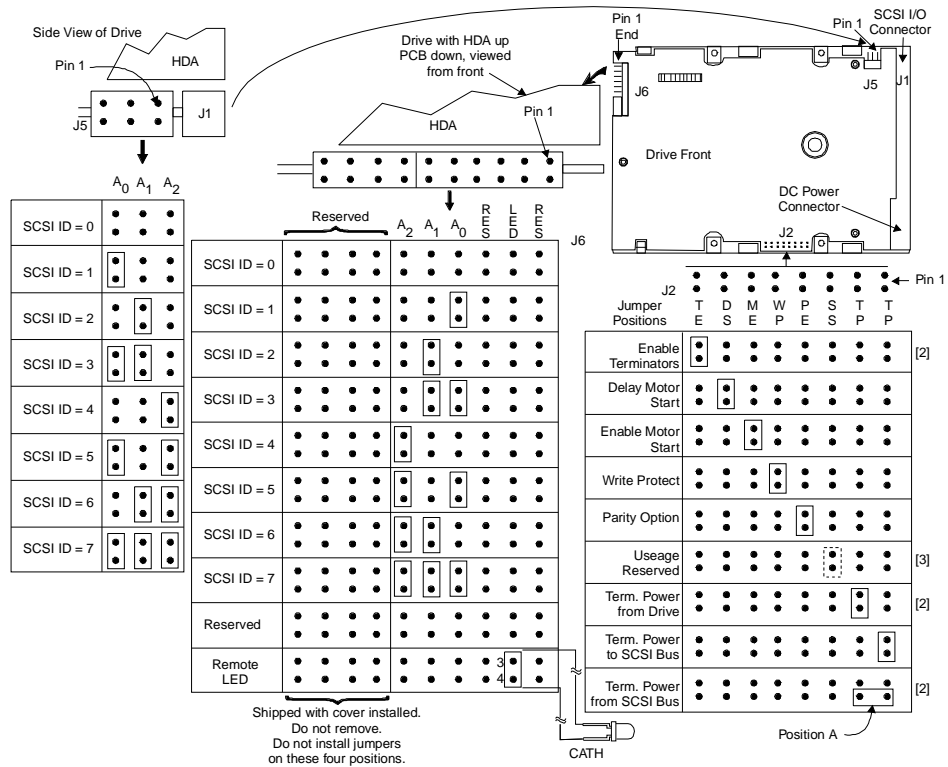

Figure 4-8. Location of Seagate 31230N Jumper Fields
The ST31230N is a 3.5 inch hard disk drive with a capacity of approximately 1050 megabytes, that provides up to 100 hours of voice storage when used with the DEFINITY AUDIX System. It supports the SCSI interface. Figure 4-8, Location of Seagate 31230N Jumper Fields, shows the location of the jumper fields.
- *Terminator enable (TE):* When a jumper is installed on pins TE, the terminators are enabled. This jumper must be removed for the drive to operate in AUDIX. See Figure 4-8.
- *Delay motor start (DS):* When a jumper is installed on pins DS, the motor start will be delayed by SCSI ID times 12 seconds after power is applied. This jumper must be removed for the drive to operate in AUDIX.
- *Enable Motor Start (ME):* When a jumper is installed on pins ME of this jumper block, the drive spindle motor will not start on power-up until it has received a motor start command. This feature is used to sequence drive spin-up to reduce maximum current requirements. Therefore a jumper should be installed on this position. See Figure 4-8.
- *Bus Parity (PE):* When a jumper is installed on pins PE, the drive will check the SCSI bus parity. The drive will operate in AUDIX with or without this jumper. However, it is recommended that this jumper be installed. See Figure 4-8.
- Disk06 should have only the A1 and A2 jumpers installed.These three jumpers are identified in Figure 4-8.